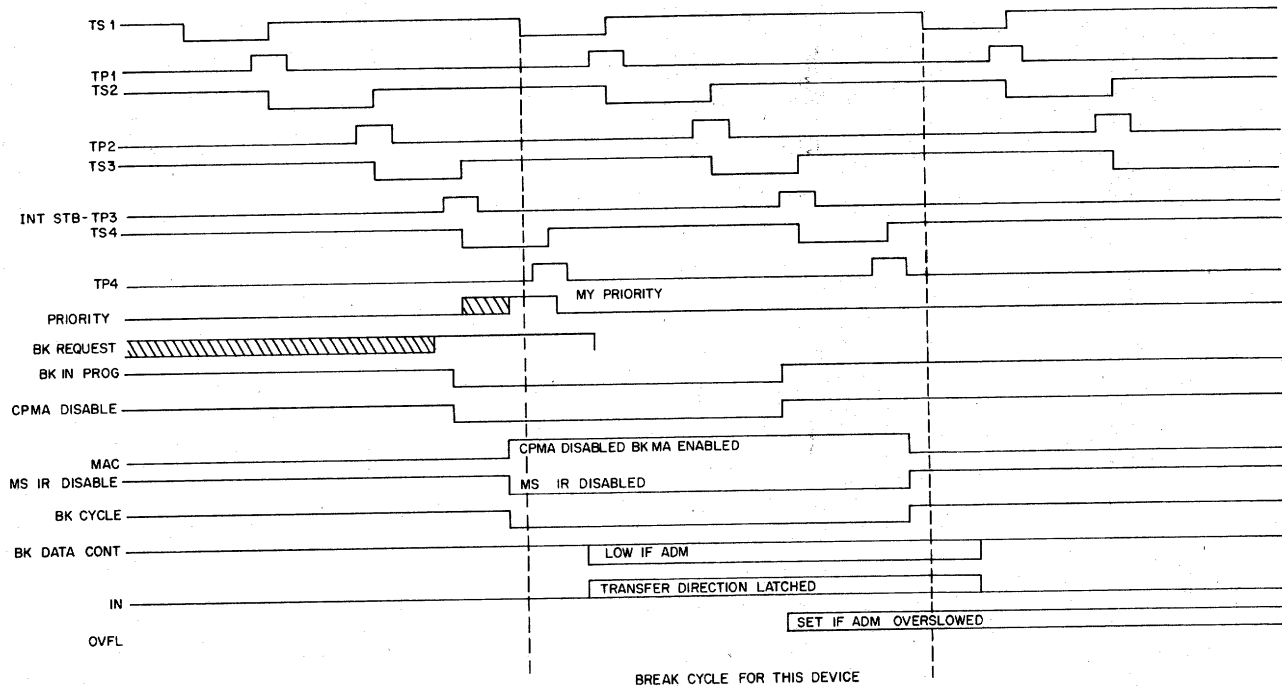

Figure 9-17 Data Break Control Timing Diagram
**Timing for Sample Data Break Interface**—The data break control timing with respect to the processor timing is illustrated in figure 9-17. The diagram illustrates 2 complete processor cycles and a portion of a third cycle. For the first cycle, only that portion beginning with TP3 is of interest. This is the time required by the data break device to assert the control signals necessary to halt the processor, address memory, and be ready for input or output transfer. If there are to be no additional transfers, the break control signals are negated at the end of the break cycle as shown on the diagram. Otherwise, the break control signals will continue into the next cycle.